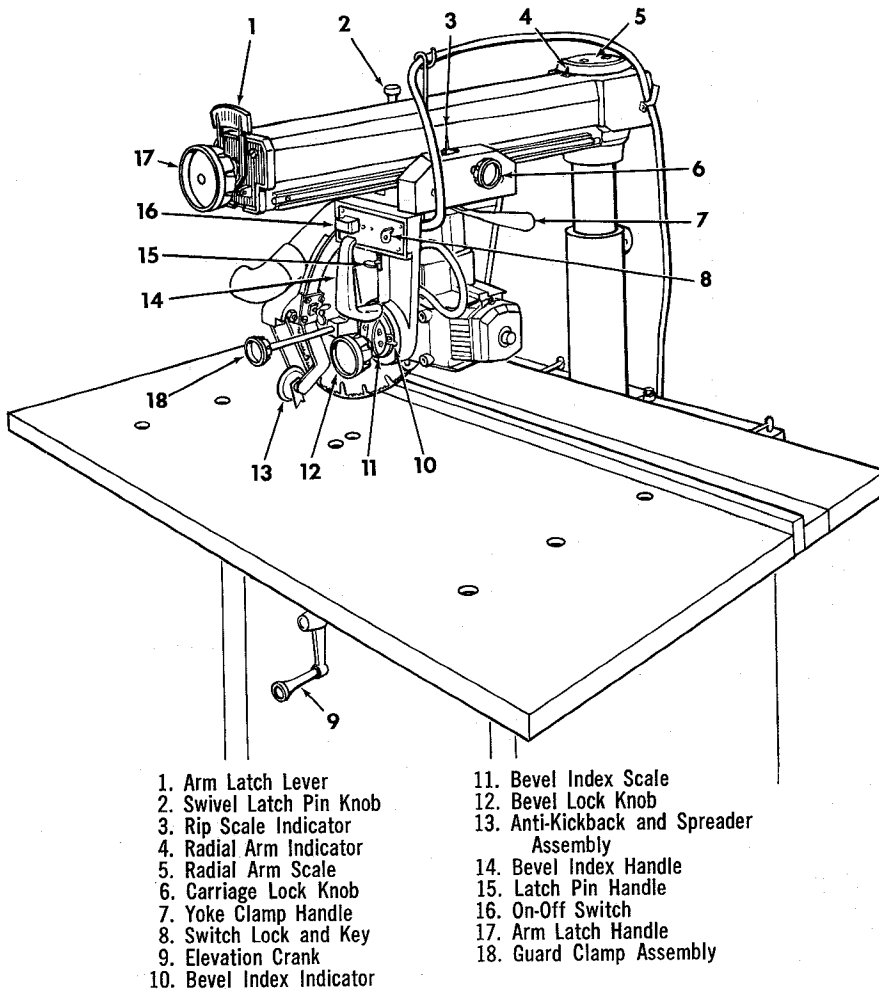
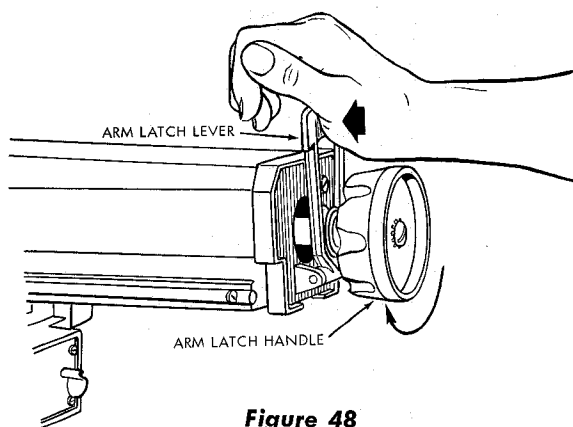

Figure 46
Figure 48
A series of six diagrams are located on the top surface of the radial arm in order to designate the controls that must be used in basic "set-ups" and operating procedures. (See figures 46 and 47.) The operator should become familiar with these diagrams and operation instructions that follow before operating the saw.
- The diagram shows the elevation crank (9, figure 46) which is used to raise and lower the saw blade.
CAUTION: When moving the radial arm in any direction beyond 45° (left or right), always pull out the arm latch lever (1, figure 46), or loosen the lever by rotating the arm latch handle (knob) counterclockwise until
- Two controls are involved in releasing, securing and indexing the angle of the radial arm. These are: arm latch handle, (17, figure 46) and arm latch lever (1, figure 46).
- The arm is unlocked from any position by a slight counterclockwise rotation of the arm latch handle (17, figure 46) and is locked in any desired angular position by rotating the arm latch handle clockwise until tight. The radial arm has positive stops at 0° and 45° left and right, and is released from these index positions by unlocking the arm latch handle (17, figure 46) 1/4-turn and pulling out the arm latch lever (1 figure 46).
- (1) If the radial arm is already indexed, rotate the arm latch handle (17, figure 46) **1/4 turn counterclockwise from the locked position**, pull out the arm latch lever (1) and move the radial arm off the index position. Release the arm latch lever (1).
- (2) Move the radial arm into the desired index position (do not bump or jar it) and push on the arm latch lever (1, figure 46) solidly with the palm of the hand. (See figure 48). This is very important as it insures proper seating of the arm lock pin in the arm latch, thus always returning the arm to the correct position.
- (3) Lock the radial arm by rotating the arm latch handle (17, figure 46) clockwise until tight.
- a. Two controls are used in this operation. They are: swivel latch pin knob (2, figure 46) and yoke clamp handle (7, figure 46).
- c. The yoke clamp handle (7, figure 46) locks the yoke to the carriage in any position. Pull the handle forward to release the yoke; push the handle rearward to secure the yoke.
- a. The carriage lock knob (6, figure 46) is rotated clockwise to secure the carriage on the radial arm, and counterclockwise to release it.
- b. When performing a square crosscut or angle cut, the carriage lock knob must be rotated counterclockwise until the carriage is free to travel along the arm. This knob should be tightened except when the operator is ready to grasp the bevel index handle (14, figure 46) and make a cut.
- a. The two controls used in angular positioning and indexing of the motor to provide the desired saw blade angle are: bevel lock knob (12, figure 46) and latch pin handle (15, figure 46).
- b. The bevel index scale (11, figure 46) indicates the angular position of the motor with respect to horizontal from 0° to 90° in either vertical position.
- c. The latch pin handle (15, figure 46) automatically indexes the motor at 0° , 45° and 90° up and down. Lift the latch pin handle to release it. At any other position, the latch pin handle does not engage.
- d. The bevel lock knob (12, figure 46) locks the motor to the yoke when the motor is in any position. Rotate it clockwise to lock; counterclockwise to unlock.
Experienced operators of precision equipment, such as this Craftsman Radial Saw, normally acquire the habit of indexing the machine in one direction only, whenever a new setting is made in preparation for a different operation. For example: when moving the radial arm to a new position, it is advisable to move it slightly past the desired index position, then return it slowly and carefully to latch and lock it. Figure 48 shows the radial arm being securely indexed by "tapping" it with the palm of the hand. Swivel indexing and bevel indexing can be accomplished in a similar manner. This indexing technique tends to neutralize any stresses imposed upon saw components and contributes to the high degree of accuracy the saw is capable of producing when operated expertly.